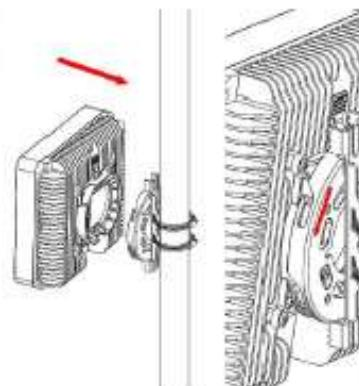

Figure 3-32
**Step 2.** Connect the power cable and the fiber cable onto the IRU-O module. Align breach of bracket with direction of plug (Figure 3-32). and ensure that the attachment plate is fully inserted into the bracket. Rotate clockwise and hear the spring snapping (Figure 3-33/34). Ensure that the IRU-O module is properly installed.